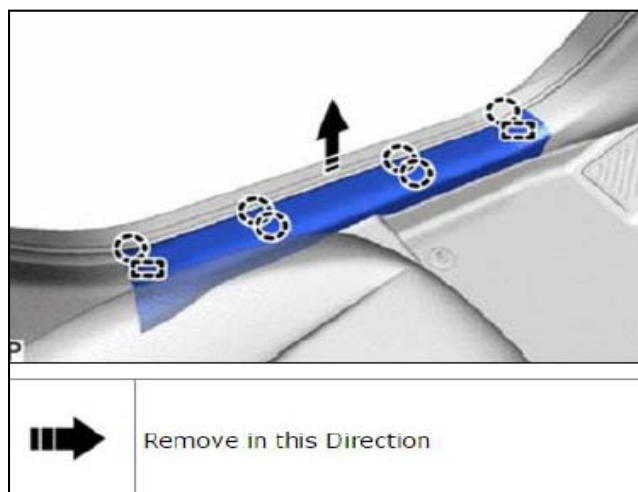

Figure 6
- b. Disengage the 6 claws and 2 guides to remove the front door scuff plate LH as shown in Figure 6.